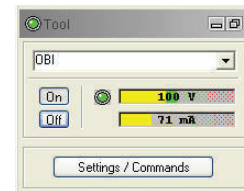

Figure 4-1 Tool panel
2. □ Select the relevant OBI tool from the drop down list (Figure 4-1) in the software's **Tool** panel (if your tool is not listed check that your tool configurations file is stored in the designated folder on your computer).
4. □ On the **Tool** panel (Figure 4-1) click the **Settings / Commands** button to configure your tool (see chapter 4.5 for details).